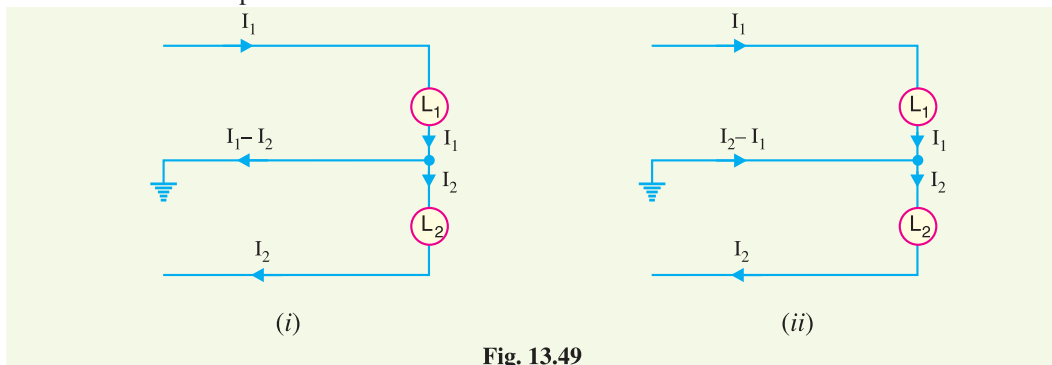

Fig. 13.49
- (ii) If the load on the positive outer ( $I_1$ ) is greater than on the negative outer ( $I_2$ ), then out of balance current  $I_1 - I_2$  will flow in the neutral wire from load end to supply end as shown in Fig. 13.49 (i). Under this condition, the potential of neutral wire will no longer be midway between the potentials of the outers.
- (iii) If the load on the negative outer ( $I_2$ ) is greater than on the positive outer ( $I_1$ ), then out of balance current  $I_2 - I_1$  will flow in the neutral from supply end to load end as shown in Fig. 13.49 (ii). Again, the neutral potential will not remain half-way between that of the outers.